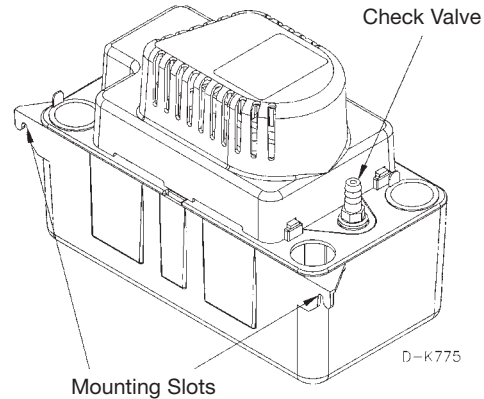

Figure 2.
- Mounting the pump: The tank has two slots provided to mount the unit on a vertical surface such as an adjacent wall. The slots are located on the ends of the tank (Fig. 2). Pump must be level and the inlet must be below the coil drain. Conduit fittings are not compatible with the plastic pump housing.